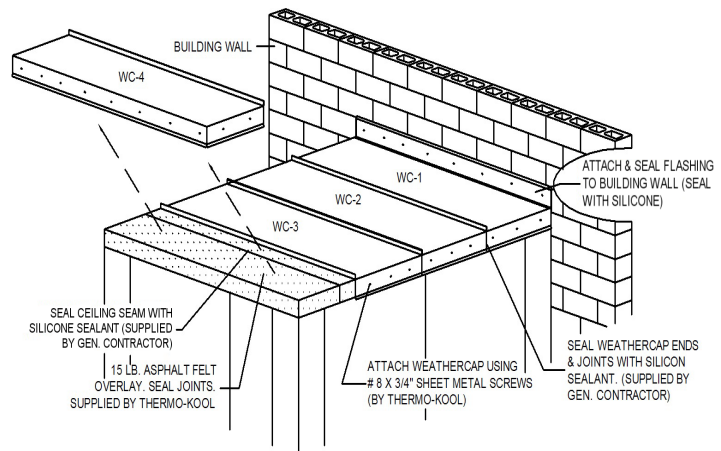

FIGURE 16 - METAL WEATHERCAP INSTALLATION FLASHED TO BUILDING WALL
3. Position the first weathercap #WC-1 and attach 6" flange to ceiling panels with #8 x 3/4" screws provided. Continue placing #WC-2, #WC-3, etc., fastening to the ceiling panels. Ensure all metal seams are snug. Do not allow metal seams to spread or the overall cap will be too large for the walk-in (Refer to Figure 16).
4. After all metal caps are in place and securely fastened to ceiling panels, seal all edges and seams. **Note: Where the walk-in is installed next to a building wall, the ends of the weathercap will flange upwards 6" against the building. Attach the flange to the building wall and seal watertight (Refer to Figure 16).**